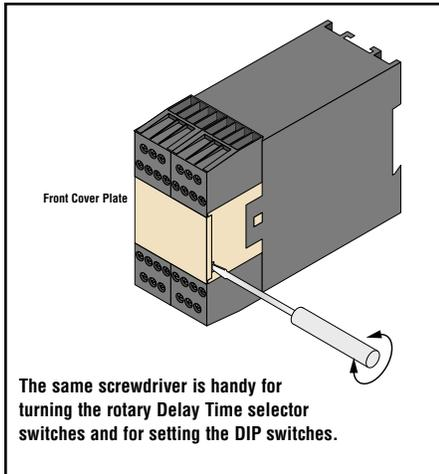

Figure 5. Use a screwdriver to gently pry the cover loose from the Module housing.
The E-Stop Safety Module may be configured for Automatic Reset via two independent DIP switches, located inside the Module housing, under the front cover (see Figures 5 and 6) and by replacing the Reset switch with a jumper wire in the X1-X2 reset input circuit (see Figure 3).
The DIP switches and selector switches are located inside the Module housing, behind the front plate. Before adjusting any settings, turn OFF power to the Module. Remove the front plate by using a screwdriver in the slot on the right side and gently prying the cover away from the housing (Figure 5). Turn the rotary Delay Time selector switches to the desired position using the same small screwdriver in the slot on the arrow. Use the screwdriver blade to slide the DIP switches to their proper positions also.
3. Remove the E-Stop Safety Module front cover, (see Figure 5).